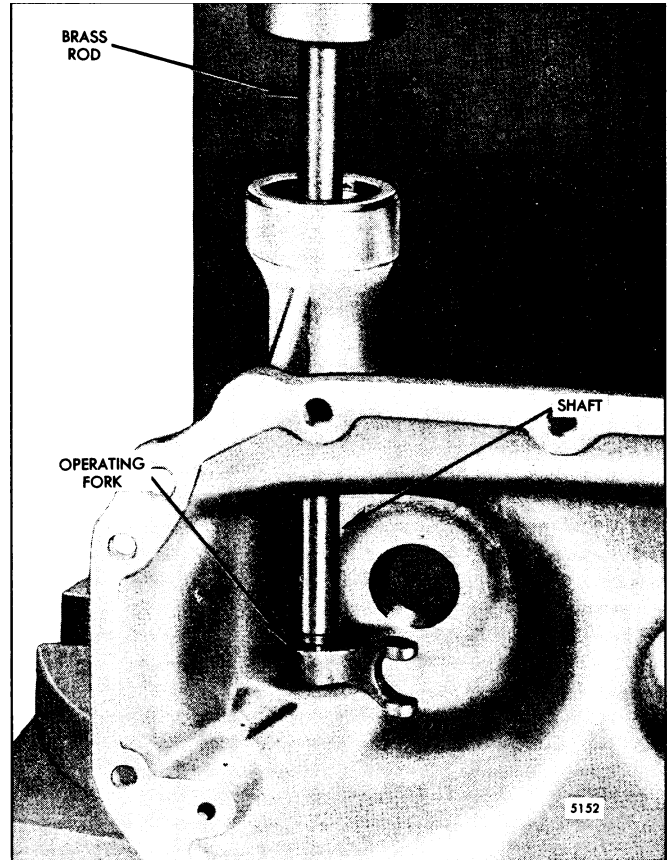
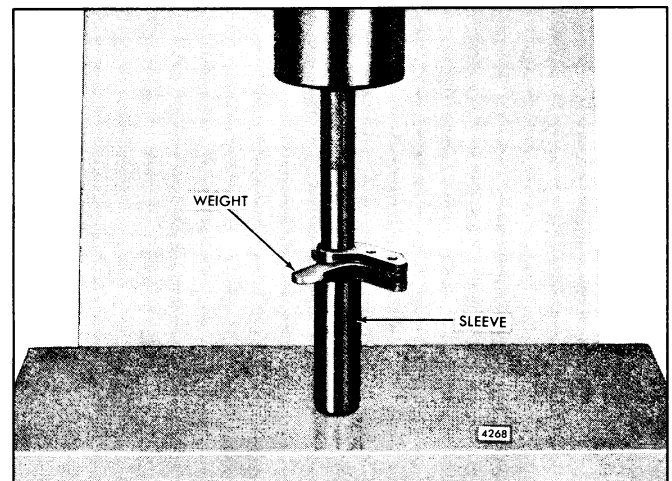

Fig. 15 - Installing Operating Shaft and Fork in Weight Housing
Fig. 16 - Installing Bushing In High-Speed Weight using Tool J 8985
- d. Turn the weight housing over and press down on the operating shaft to remove the shaft from the lower bearing (Fig. 15). Continue to press down on the shaft, with the operating fork (40) against the flat shoulder of the housing, to remove the operating fork (40) from the shaft. Remove the shaft, operating fork and lower bearing from the weight housing.
- c. Start the operating fork (40) over its seating shoulder on the operating shaft (39).
- d. Lower the operating shaft and fork until the fork is against the housing lower boss and, using a brass rod, press the operating shaft into the fork until the fork bottoms against the shoulder on the shaft (Fig. 15).
- e. Turn the housing over and, with the operating shaft suitably supported, press the lower bearing assembly (41) over the lower end of the operating shaft. Install the bearing with the shielded side facing in.
- f. Turn the housing back upright again and, using the same method, install the upper bearing (37) with the numbered side facing out. Make sure that the lower bearing assembly is in place in the housing lower bearing bore.
- h. Place the two spacers (36) over the top of the operating shaft and install the Woodruff key (35) and snap ring (38).
- i. Apply a good quality sealant around the cup plug (42). Tap the plug into position in the weight housing operating shaft lower bearing bore.
- a. Place the governor high-speed weight on the bed of an arbor press (Fig. 16). Position the bushing in the bore of the weight and, using a suitable sleeve and replacer J 8985, press the bushing into the weight.